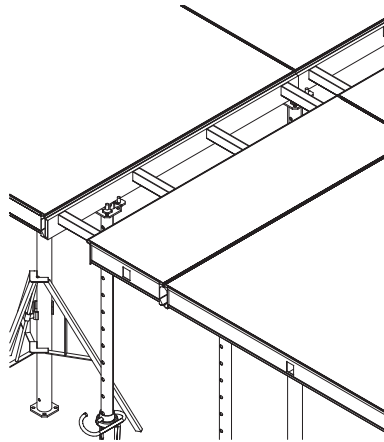

Fig. 14.21
6. The ALUstrop ceiling formwork allows for the boarding of the surfaces whose dimensions are the multiple of 15 cm. The system also includes the expandable shuttering board (A0060055) which can be used to fill the space of 55 - 90 cm (fig. 14.21). The possible gap which may be created should be filled with the formwork plywood 21 mm thick.